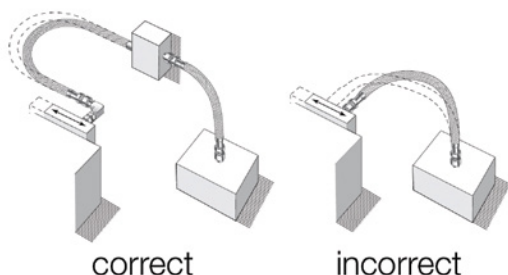

FIGURE 2. Strain can occur when a hose is twisted or bent on more than one plane
- Twisting a hose or bending it on more than one plane (Figure 2)